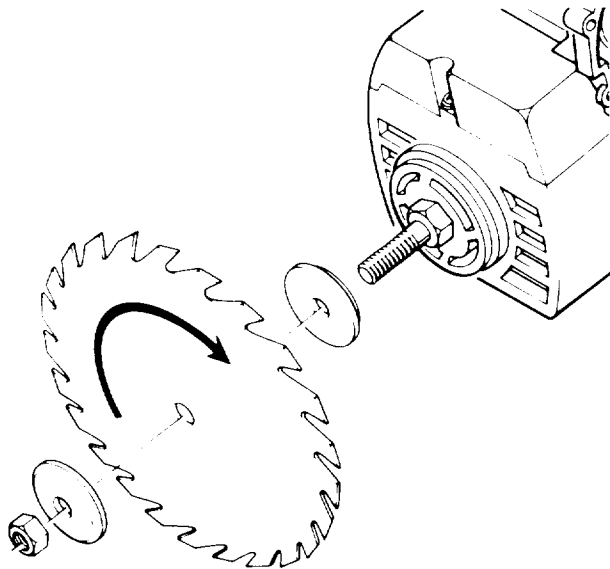

Fig. 61
2. Place the *blade* on the *arbor shaft* with a *blade collar* on each side. Make sure that the directional arrow is on the outside of the *blade*, and the teeth are pointing down at the front side of the *blade*. (Figure 61)